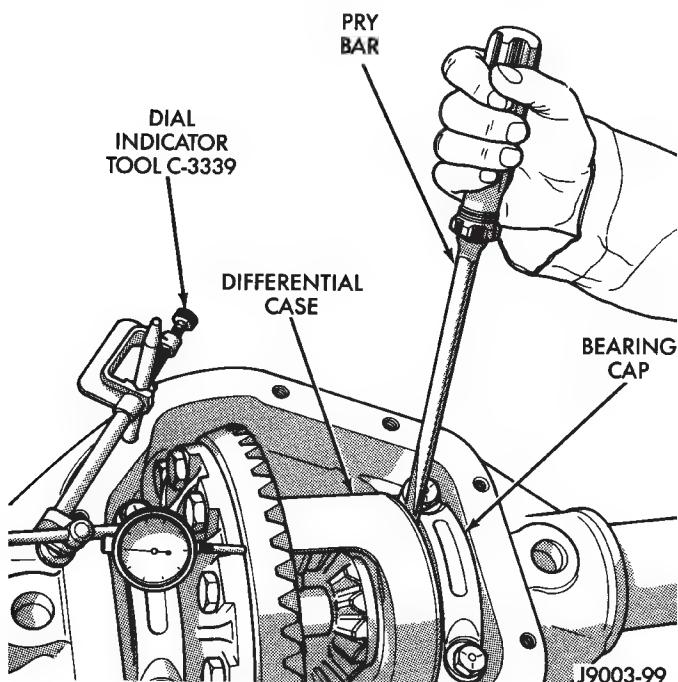

Fig. 55 Shim Pack Measurement
(1) Place Master Differential Bearing D-134 (D-348) on the case hubs.
(2) Install a pilot stud at the left side of housing. Attach Dial Indicator to housing. Load the indicator plunger against the back of the ring gear (Fig. 55). Ensure ring and pinion gear teeth are tightly meshed. Zero the indicator.
(3) Insert a small pry bar between the bearing cap and left side of differential case. Pry the case as far as possible to right side (Fig. 55). Zero the dial indicator pointer.
(4) Repeat the measurement several times to check consistency. Record the travel distance.